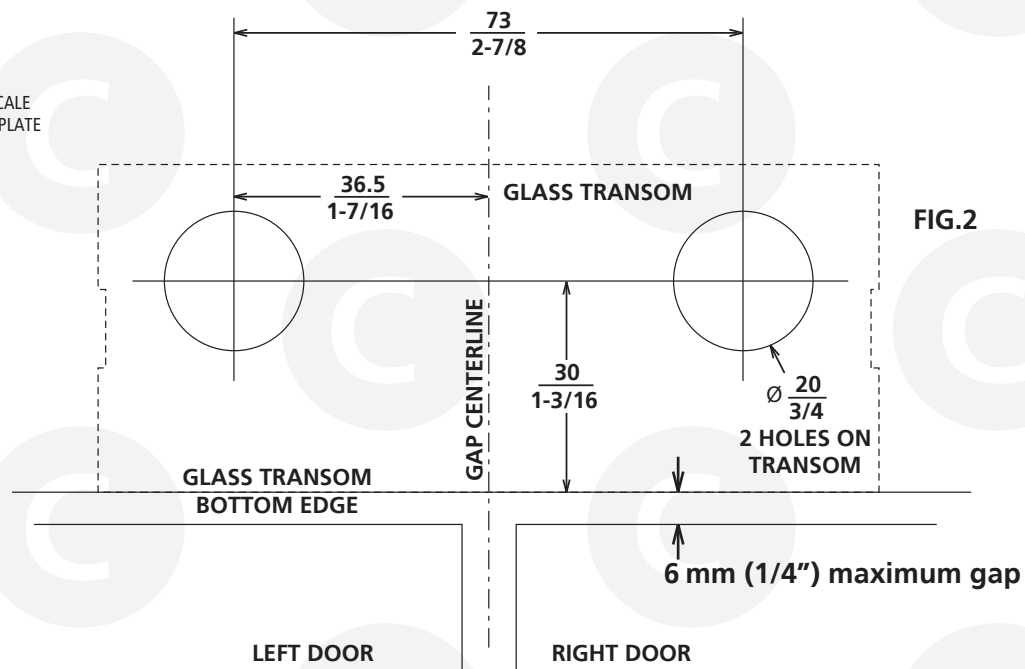

FIG.2
1. Determine the center of the gap between the two doors as shown in figure 2.
2. Drill two 20 mm holes into the transom glass as shown in figure 2.